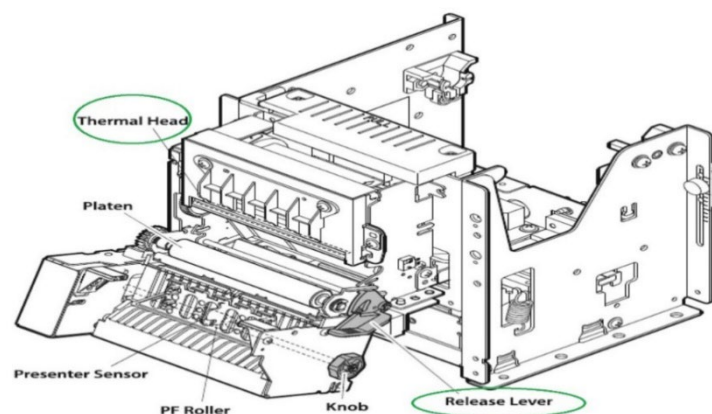

Figure 68. Printer thermal head cleaning
- Open the front of the printer with the green release lever seen in Figure 68